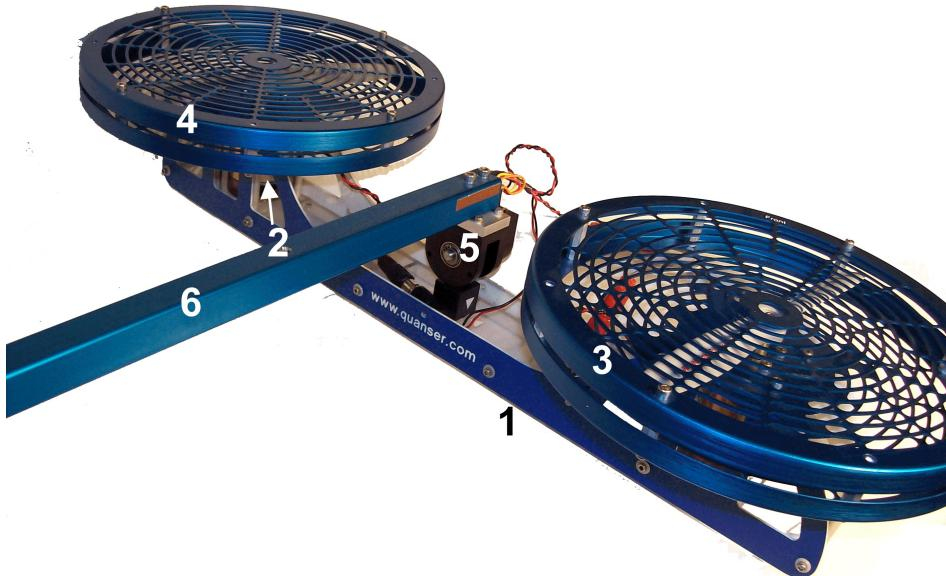

Figure 5: Components on the helicopter body of the 3-DOF Helicopter system.
7. Attach the helicopter body, ID #1 in Figure 5, to the T-fitting of the pitch encoder (ID #5 in Figure 5). Ensure the white arrow labels on the helicopter body and the T-Fitting are both aligned and tighten the screw from the bottom of the helicopter body. Adjust the helicopter body such that it is perpendicular to the arm